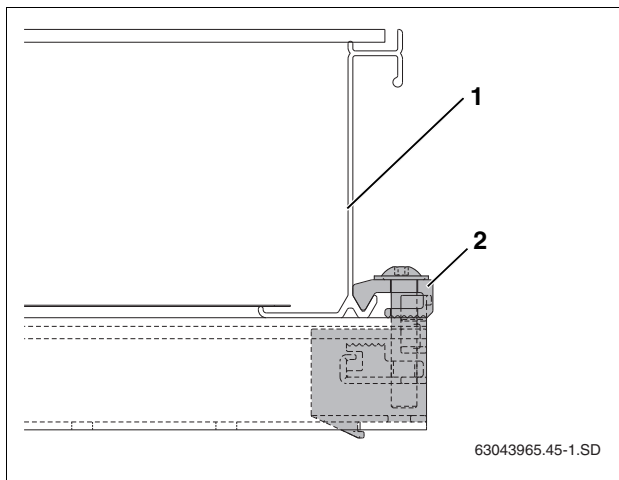

Fig. 47 Single-sided collector clamp screwed in place
- ▶ Carefully push collector (Fig. 47, [1]) up against the single-sided collector clamp and align horizontally.
- ▶ Tighten single-sided collector clamp using size 5 Allen wrench (Fig. 47, [2]).
The top (Fig. 47, [2]) of the collector clamp now grips the lower edge of the collector.